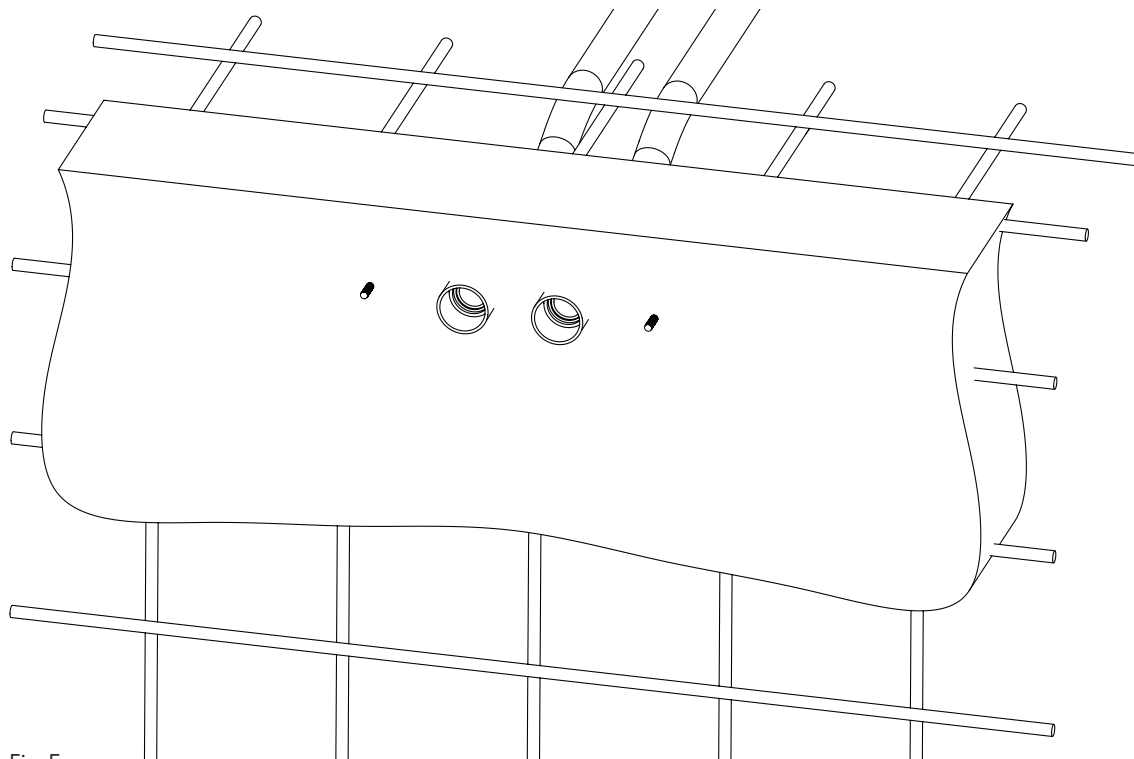

Fig. 5
4. After verifying that the bracket is positioned properly (per the specifications in Step 1), bonding connections and conduits are secured, and Coupling openings/Threaded Rods are covered, gunite can be shot. It is important to closely monitor the mounting kit during this process to ensure it remains in position (Fig. 5).